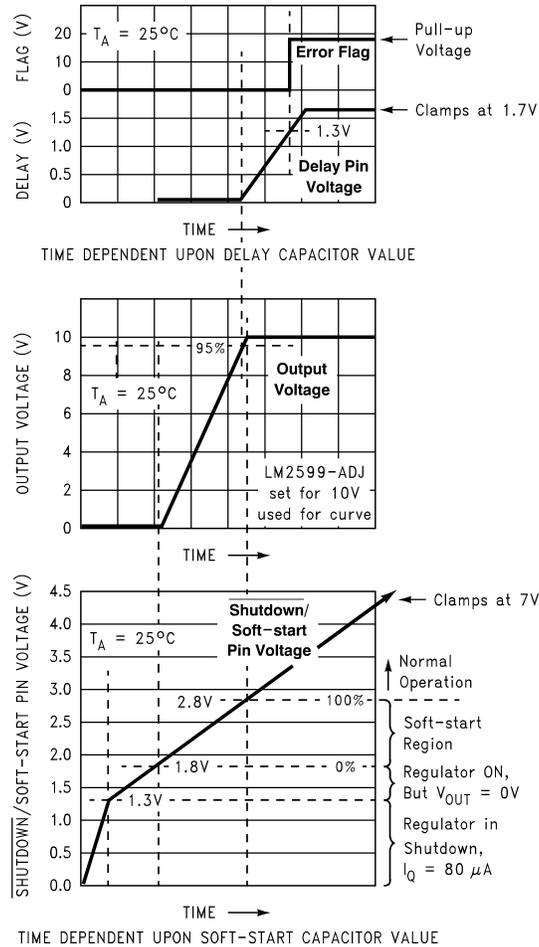
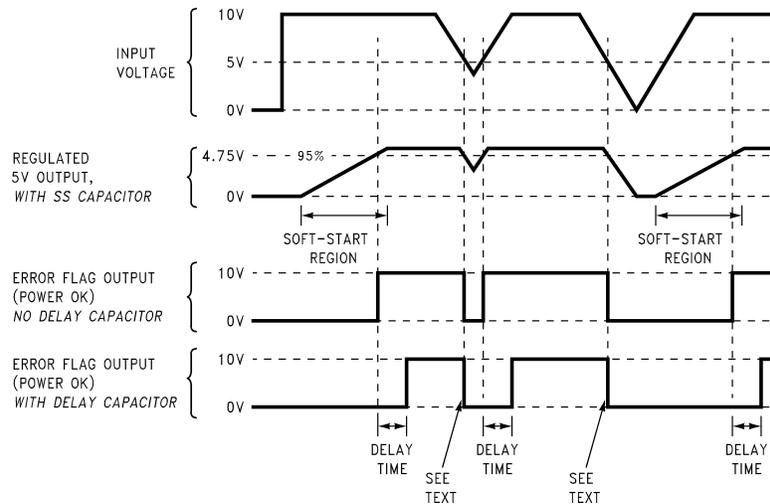

Figure 29. Soft-start, Delay, Error, Output
Figure 30. Timing Diagram for 5V Output
C_{SS} — A capacitor on this pin provides the regulator with a Soft-start feature (slow start-up). When the DC input voltage is first applied to the regulator, or when the Shutdown /Soft-start pin is allowed to go high, a constant current (approximately $5 \mu A$ begins charging this capacitor). As the capacitor voltage rises, the regulator goes through four operating regions (See the bottom curve in Figure 29).
3. **Soft-start Region.** When the \overline{SD} /SS pin voltage is between 1.8V and 2.8V (@ 25°C), the regulator is in a Soft-start condition. The switch (Pin 2) duty cycle initially starts out very low, with narrow pulses and gradually get wider as the capacitor \overline{SD} /SS pin ramps up towards 2.8V. As the duty cycle increases, the output voltage also increases at a controlled ramp up. See the center curve in Figure 29. The input supply current requirement also starts out at a low level for the narrow pulses and ramp up in a controlled manner. This is a very useful feature in some switcher topologies that require large startup currents (such as the inverting configuration) which can load down the input power supply.
Note: The lower curve shown in Figure 29 shows the Soft-start region from 0% to 100%. This is not the duty cycle percentage, but the output voltage percentage. Also, the Soft-start voltage range has a negative temperature coefficient associated with it. See the Soft-start curve in the Electrical Characteristics section.
C_{DELAY} — Provides delay for the error flag output. See the upper curve in Figure 29, and also refer to timing diagrams in Figure 30. A capacitor on this pin provides a time delay between the time the regulated output voltage (when it is increasing in value) reaches 95% of the nominal output voltage, and the time the error flag output goes high. A 3 μA constant current from the delay pin charges the delay capacitor resulting in a voltage ramp. When this voltage reaches a threshold of approximately 1.3V, the open collector error flag output (or power OK) goes high. This signal can be used to indicate that the regulated output has reached the correct voltage and has stabilized.